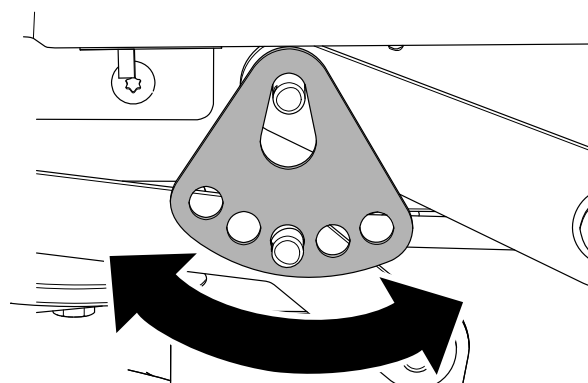

**Figure 69**
6. Remove the hairpin cotter and washer from the lower lift-arm pin (Figure 69).